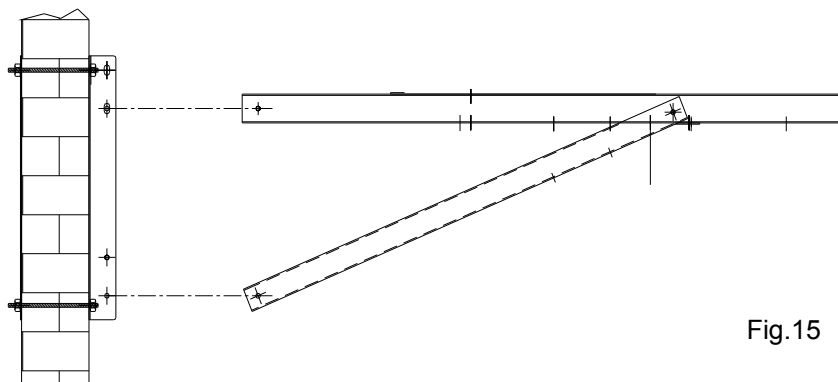
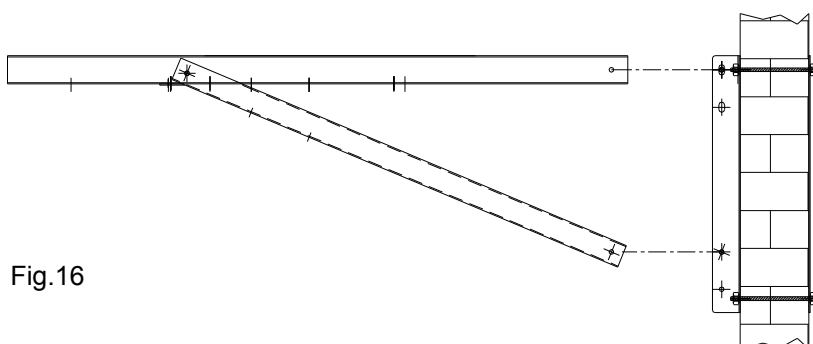

Fig.15
Fig.16
- ✓ Use the relevant screws and bolts (see fig. 15-16) to join the horizontal profile and sloping profile together. Next, fasten the assembly to the vertical profiles previously fastened to the wall. Make sure you use the lower pair of holes for centrifugal versions (see fig. 15), whilst the higher ones should be used for centrifugal versions for outside use (see fig. 16).